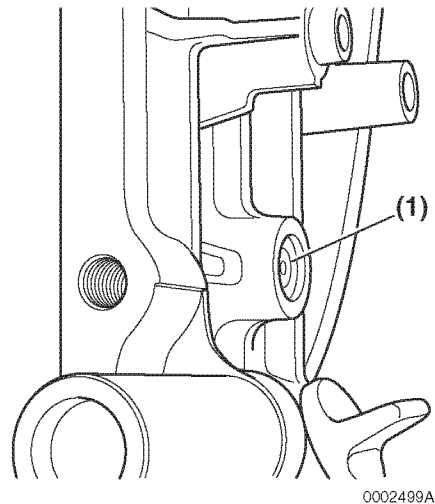

Figure 6-86
7. Carefully pry the seal (**Figure 6-86, (1)**) out of the bore.